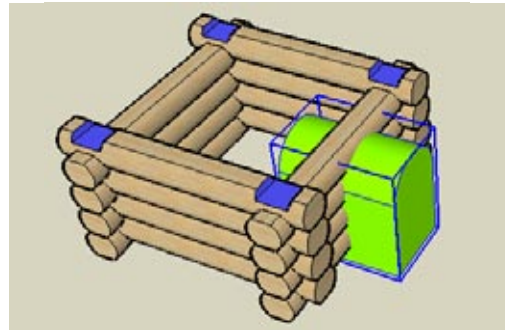

Figure 3-79
3. To cut a door in one wall, make a grouped cutout shape (Figure 3-79).